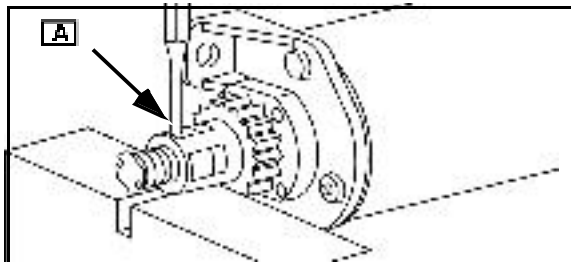

Fig. 36
1. Place starter drive retainer on support block and drive out roll pin ([A] Fig. 36) to remove starter drive.